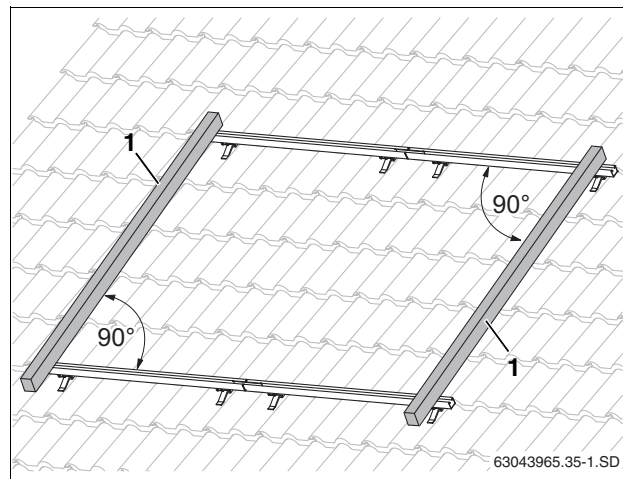

Fig. 30 Aligning the horizontal rails (high load rails not shown)
- Align the upper and lower horizontal rails evenly side to side and to each other using a level and a cord (Fig. 30).
Use a tape measure or a cord to compare the diagonal distances across, which must be identical for the installation to be square (Fig. 30, [1]). Correct it before proceeding if this is not the case.